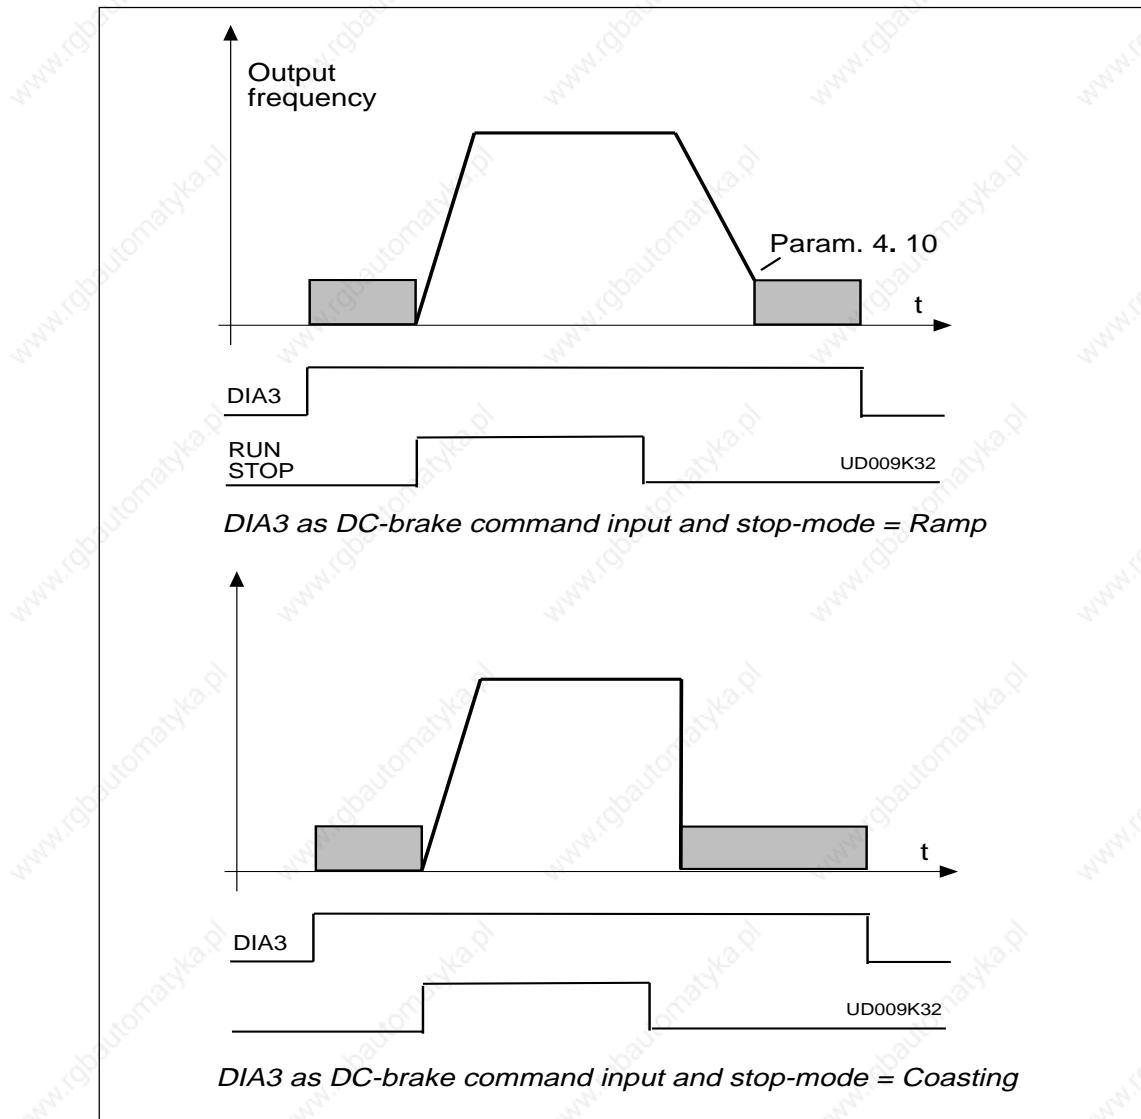

Figure 2.5-4 DIA3 as DC-brake command input:
- 9:** DC-braking command      contact closed = In the stop mode, the DC-braking operates until the contact is opened, see figure 2.5-4. Dc-brake current is set with parameter 4. 8.